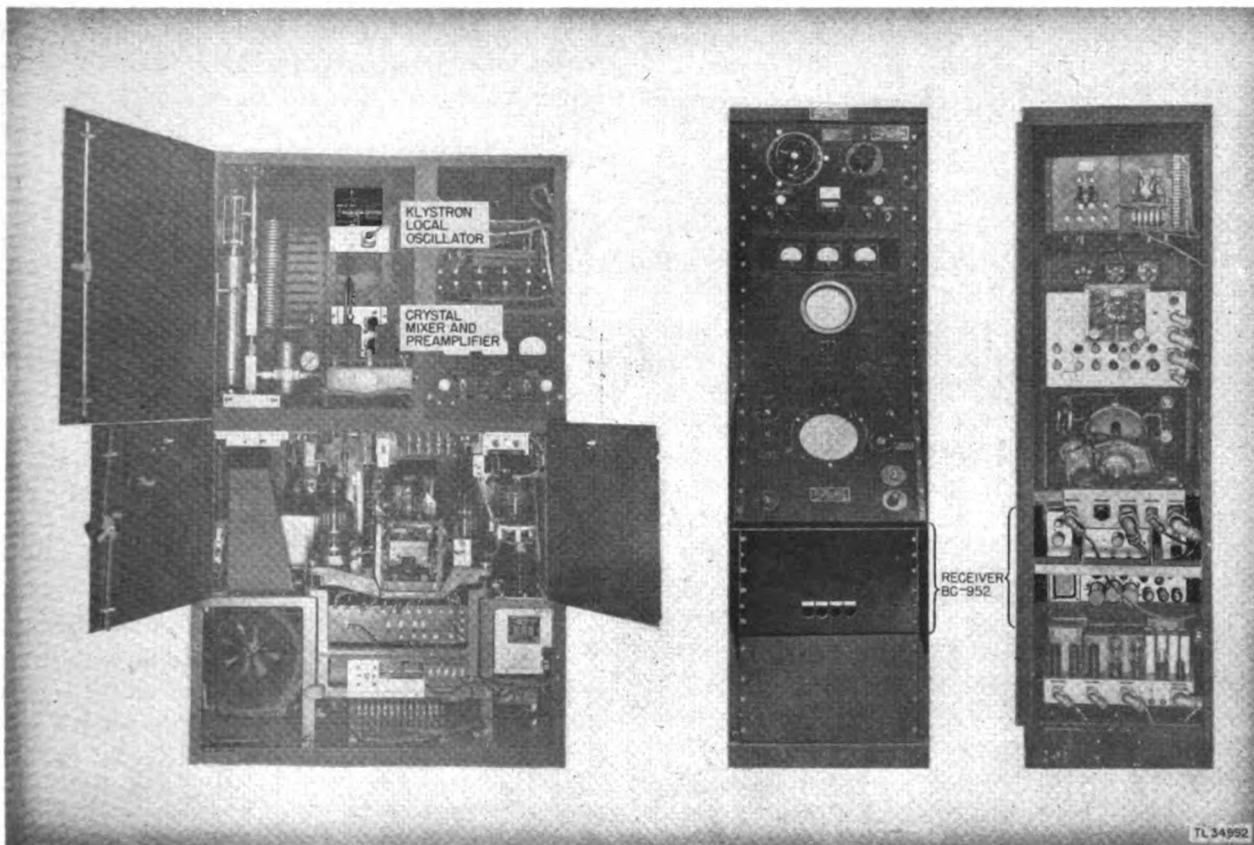

Figure 51. Receiver system.
(1) The local oscillator is a klystron-type oscillator located in the upper left-hand compartment of the transmitter cabinet (fig. 51). Its function is to oscillate at a frequency close to that of the transmitter oscillator, and by mixing with it, to give a comparatively low difference or intermediate frequency. In operation, the frequency of the local oscillator can be varied, as will be shown in subparagraph 45 (2).
(2) The crystal mixer, together with the preamplifier, forms a subassembly located in the upper left-hand section of the transmitter cabinet (fig. 51). The mixer is a device for mixing the reflected target echo or the transmitted signal (both of which are at the transmitter oscillator
(3) The preamplifier consists of two amplifier stages tuned to the intermediate frequency (i.f.) whose function is to amplify the difference frequency before it is applied to the receiver proper.
(4) The receiver proper further amplifies the signal at the intermediate frequency and then by means of the detector and video amplifiers converts the signal to a form suitable for application to the indicating system. It is located, together with the sensitivity circuit, the tuning indicator circuit, and the receiver power supply, in the chassis of Radio Receiver BC-952- (\*) in the control cabinet (fig. 51).
(5) The receiver sensitivity circuit gives control over the amount of amplification obtained in the receiver and, by so doing, controls the *size* of the signal finally applied to the indicating system.
(6) The tuning indicator circuit is provided to furnish a visual indication of the tuning of the local oscillator. Although the necessary circuits are located in the receiver chassis, the tuning eye itself is located on the panel of the PPI scope.
(7) The receiver power supply is located on the receiver chassis. It supplies all the necessary voltages for the entire receiver.
(1) The klystron-tuning motor switch operates a reversible motor which turns an eccentric cam. The motor and cam vary the tuning of the klystron local oscillator and are located in the transmitter cabinet (fig. 51) directly below the klystron.
(2) The tuning eye gives a visual indication of the proper tuning of the local oscillator and is used in conjunction with the klystron-tuning motor switch. When the local oscillator is properly tuned, the wedge-shaped shadow on the tuning eye is at minimum width.
(3) The RECEIVER GAIN control in the sensitivity control circuit varies the sensitivity of the